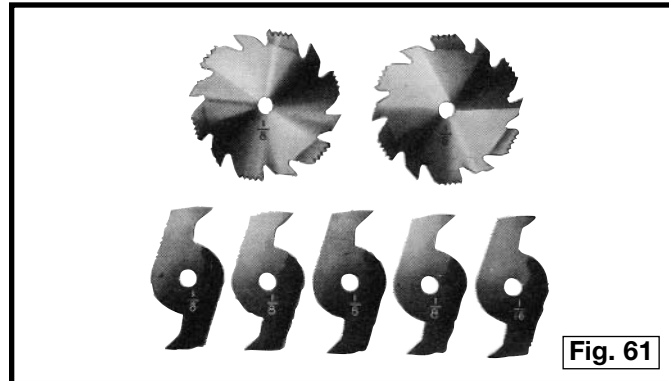
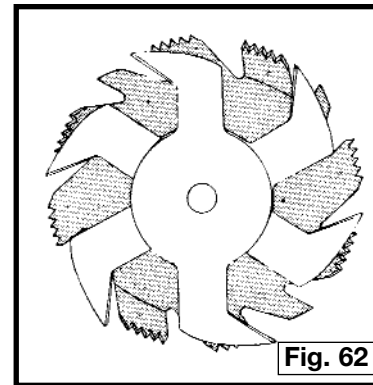
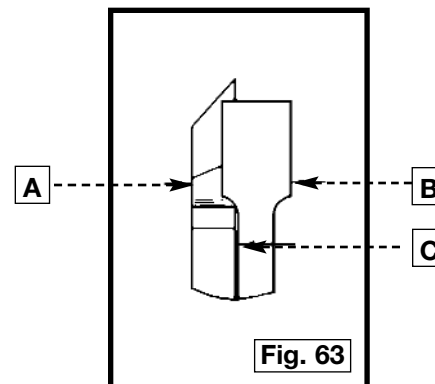

Fig. 61
Fig. 62
Fig. 63
1. Dadoing is cutting a rabbet or wide groove into the work. Most dado head sets are made up of two outside saws and four or five inside cutters, (Fig. 61). Various combinations of saws and cutters are used to cut grooves from 1/8" to 13/16" for use in shelving, making joints, tenoning, grooving, etc. The cutters are heavily swaged and must be arranged so that this heavy portion falls in the gullets of the outside saws, as shown in Fig. 62. The saw and cutter overlap is shown in Fig. 63, (A) being the outside saw, (B) an inside cutter, and (C) a paper washer or washers, used as needed to control the exact width of groove. A 1/4" groove is cut by using the two outside saws. The teeth of the saws should be positioned so that the raker on one saw is beside the cutting teeth on the other saw.